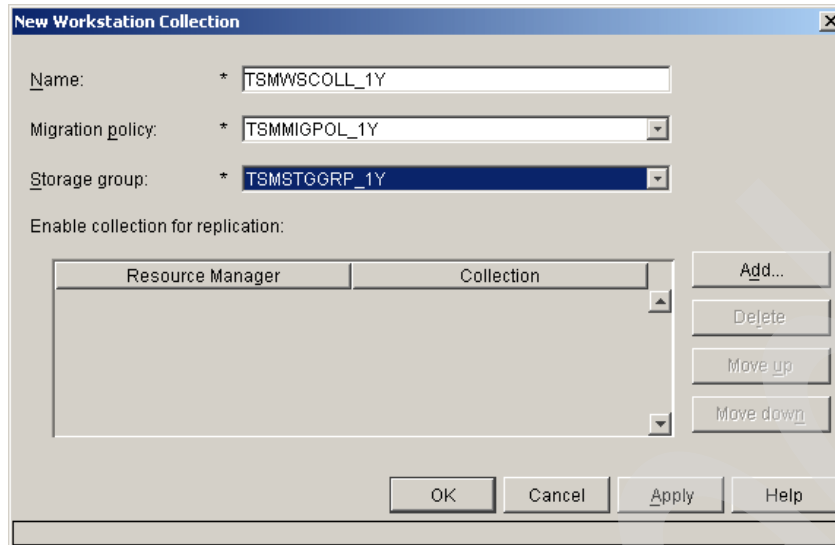

Figure 8-17 New Workstation Collection window
- h. Right-click **Workstation Collections** and click **New** to open the New Workstation Collection window, as shown in Figure 8-17 on page 323.